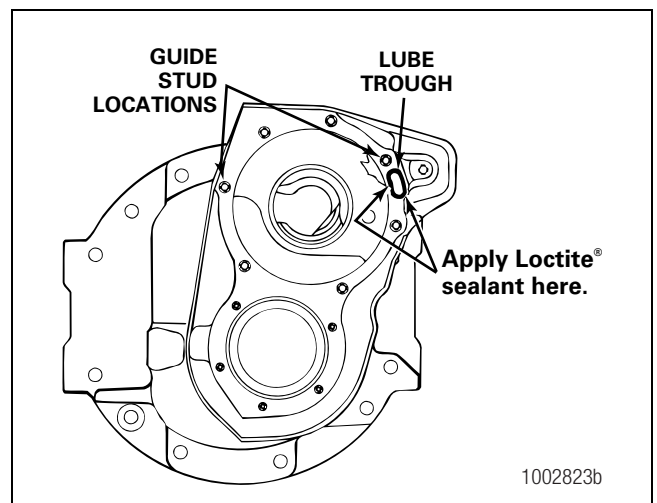

Figure 5.87
- B. Spray Loctite® Primer N sealant on the cage and carrier faces around the perimeter of the lube trough hole at the two o'clock position. Figure 5.87. Allow the primer to dry three to five minutes.
- C. Carefully apply Loctite® 518 sealant to the cage and carrier faces around the lube trough hole. Avoid allowing any excess Loctite® sealant accumulation in the bearing cage bore. Figure 5.87.